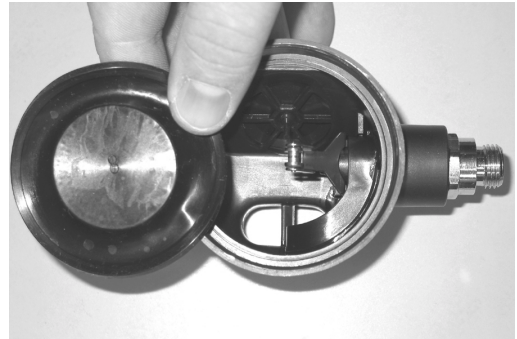

Fig. 1
1. Snip the plastic TIE WRAP (19) that holds the MOUTHPIECE (18), and remove the MOUTHPIECE. Inspect the condition of the MOUTHPIECE to ensure that it is supple and free of any tears or corrosion. Discard if found.
2. Remove the Hose from the Second Stage, using an 11/16" open end wrench, while holding the Hex portion of the INLET COUPLING (3) secure with a 3/4" open end wrench.
3. Using a Universal Front Cover Tool, remove the COVER RING (17) to expose the FRONT COVER (16). By lifting it straight up and out, remove the FRONT COVER to expose the DIAPHRAGM (15).
4. Grasp the DIAPHRAGM (15) by the raised Edges of the Center, and gently lift it out with a slight upward twist to remove. (Fig. 1) Inspect the DIAPHRAGM to ensure it is supple and free of any tears, corrosion, or other distortion. Discard if found.